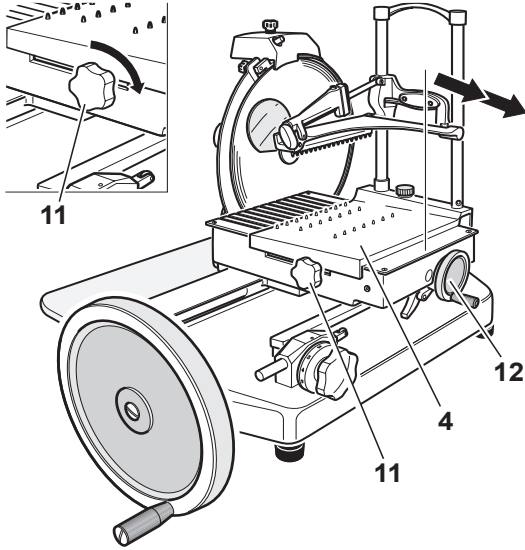

Figure 20-1
6. Turn the handwheel (12) or the fast forward knob (11) clockwise to move the product holder (4) away from the knife (16) (Figure 20-1).